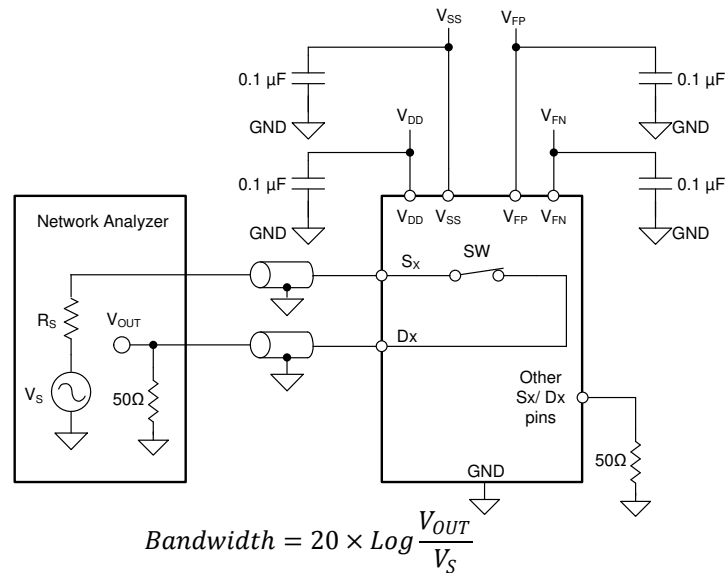

图 7-11. Bandwidth Measurement Setup
Bandwidth (BW) is defined as the range of frequencies that are attenuated by < 3 dB when the input is applied to the source pin (Sx) of an on-channel, and the output is measured at the TMUX7462F's drain pin (D or Dx). 图 7-11 shows the setup used to measure bandwidth of the switch.